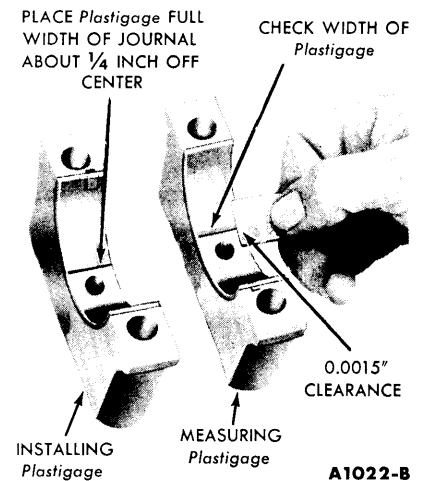

FIG. 39—Installing and Measuring Plastigage—Engine in Chassis
9. Place a piece of Plastigage on the bearing surface the full width of the bearing cap and about ¼ inch off center (Fig. 39).